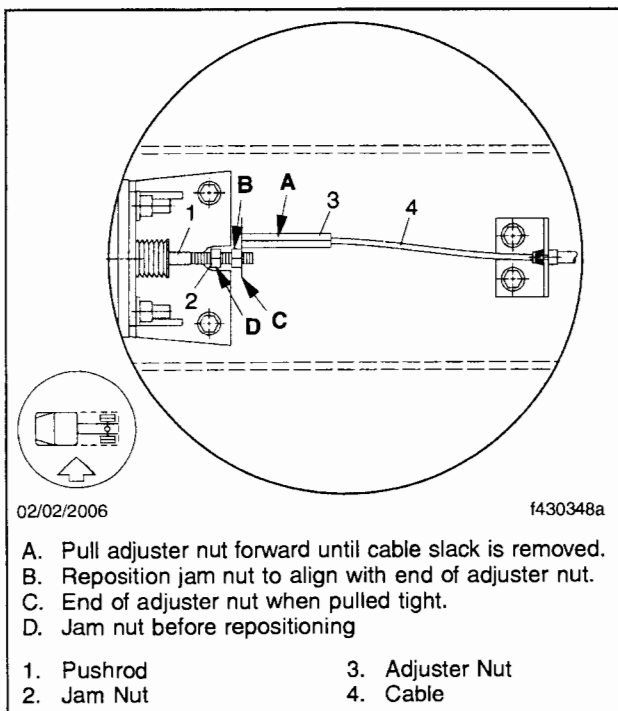

Fig. 10, Cable Adjustment, Air-Actuated Parking Brake
- 24.3 Pull the adjuster nut forward until the cable slack is removed. See **Fig. 10**.